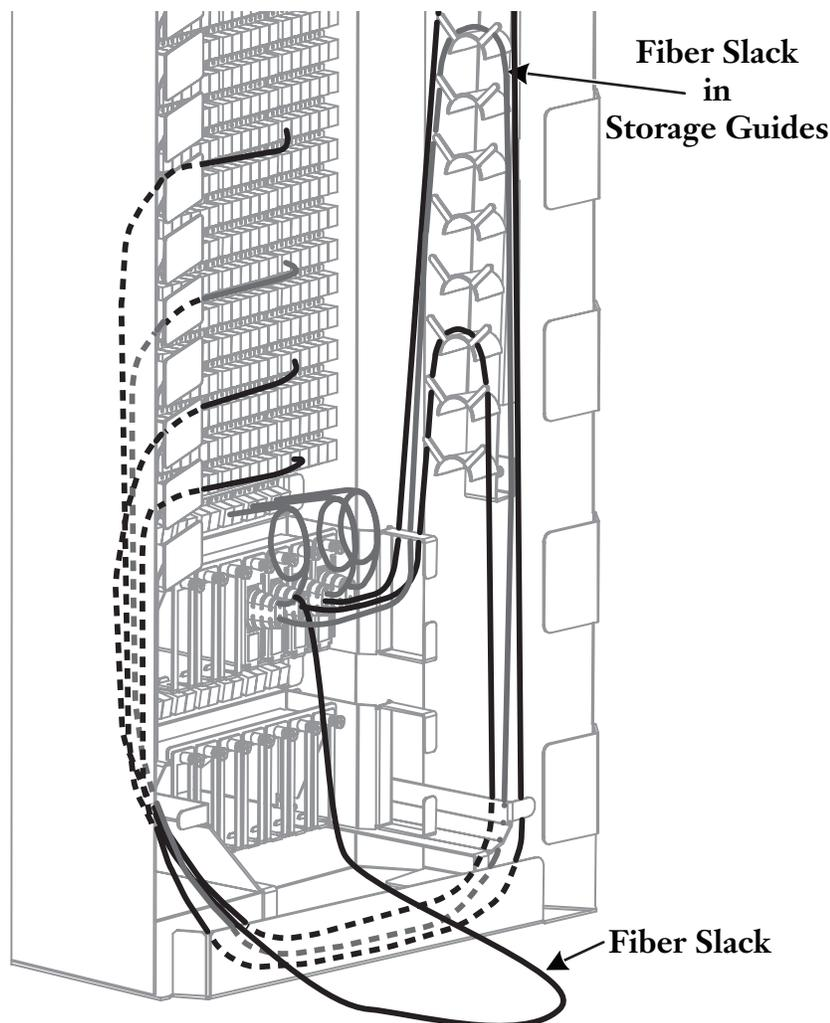

Figure 16 — Route and Mate Splitter Output Fibers in Adapter Panel Compartment
- Step 1** If a splitter output fiber is not to be connected at this time, route the fiber through the retaining guides and around the routing guides and the slack storage hubs in the slack storage area as shown in Figure 16.